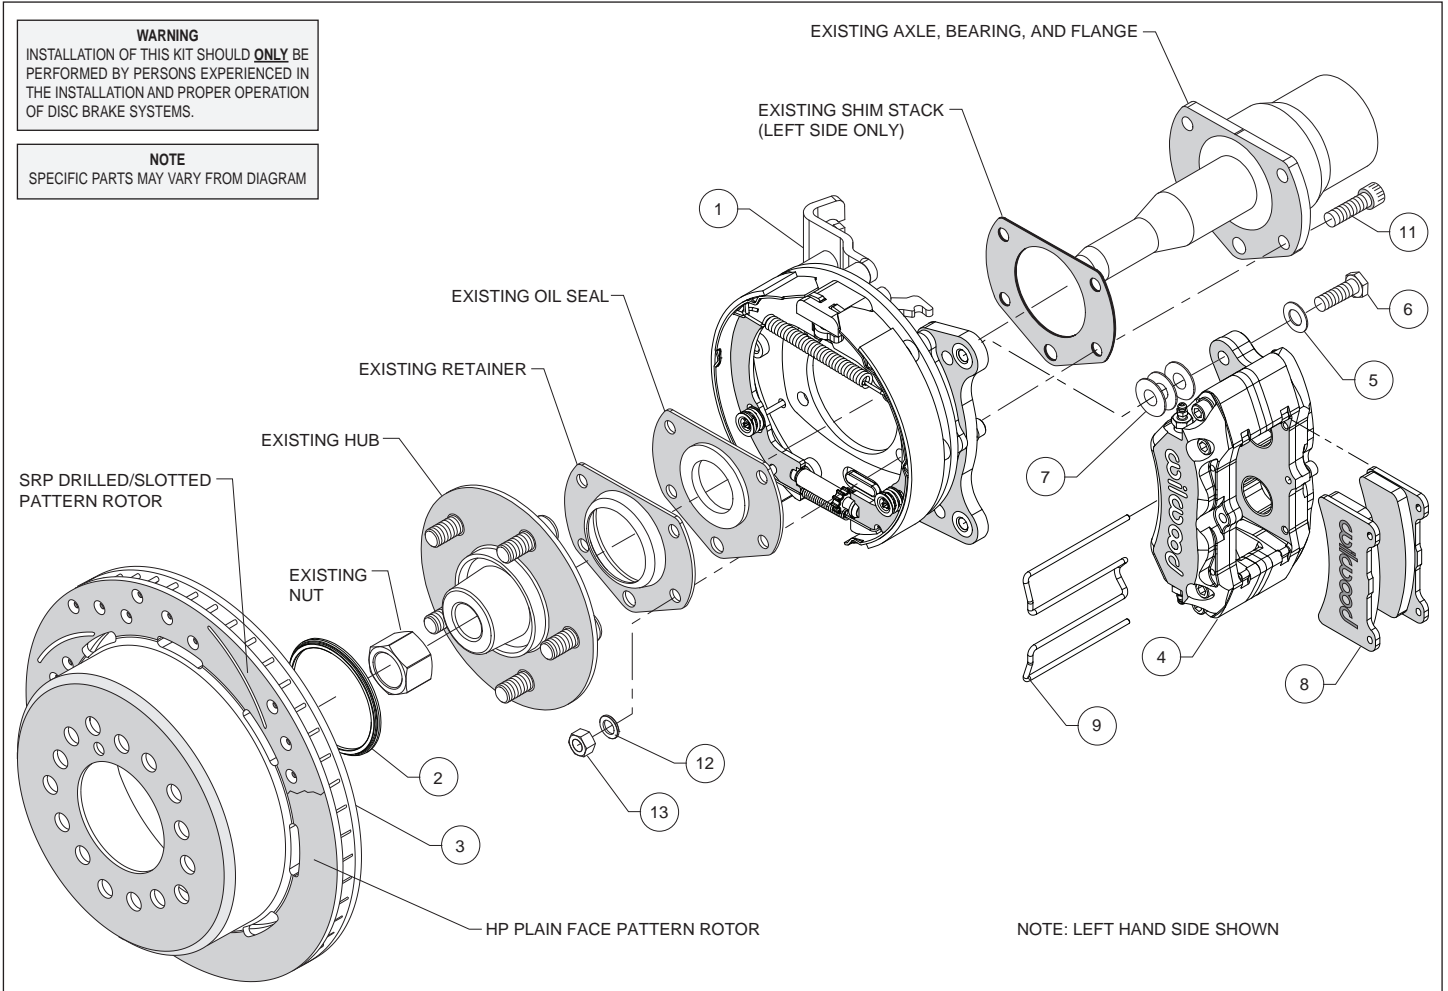
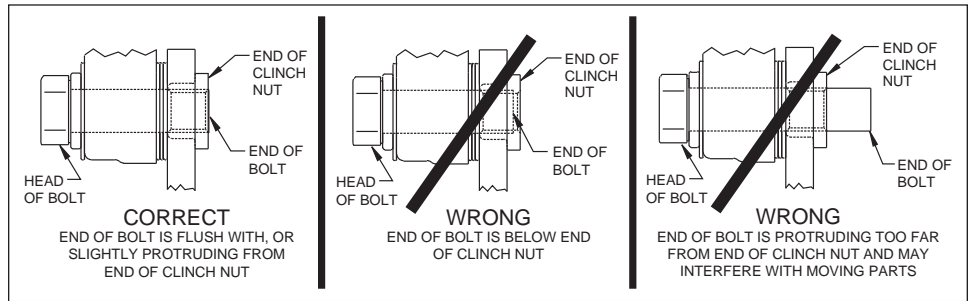

Figure 1. Typical Installation Configuration
Figure 4. Clinch Nut Engagement Diagram
Remove the rear wheels and disassemble the drum brake assembly down to the bare axle. Save the OEM retainer and left side axle flange shim stack. Refer to Figure 1.
Assembly Instructions (numbers in parenthesis refer to the parts list, and Figure 1 on the preceding pages): **CAUTION:** All mounting bolts must fully engage clinch nuts. Be sure to check that all bolts are either flush or protruding through flanged side of clinch nut after shimming, Figure 4.
- Orient the bracket assembly (1), as shown in Figure 1, and Photo 2. Install a new OEM seal plate (not included), Photo 3, and OEM retainer, Photo 4. Secure using bolts (11), washers (12), and nuts (13). Apply red *Loctite*® 271 to the bolt threads and torque nuts to 40 ft-lb.
- Slide the rotor registration adapter (2) onto the axle register on the axle flange with the smaller O.D. facing toward the rotor/hat (3), Photo 5. Align the correct hole pattern in the rotor/hat with the stud pattern on the axle flange and slide into place, Figure 1 and Photo 6. **NOTE:** The rotor/hat must fit flush against the axle flange or excessive rotor run out may result. Install three lug nuts (finger tight) to keep the rotor/hat assembly in place while continuing with the installation. **NOTE:** Some OEM and after market axles come with stud sizes larger than 0.50" diameter. Verify stud size and have a qualified machine shop drill the bolt circle of the hat/rotor to the correct stud size, if necessary.
•**NOTE:** Please reference the caution statement at the beginning of the assembly instructions. Mount the caliper (4) onto the caliper mounting bracket (1) using bolts (6) and washers (5), as shown in Figure 1. Initially place three .035" thick shims (7) on each bolt between the caliper and the bracket, Photo 7. Temporarily tighten the mounting bolts and view the rotor (3) through the top opening of the caliper. The rotor should be centered in the caliper, Photo 8. If not, adjust by adding or subtracting shims between the bracket and the caliper. Always use the same amount of shims on each of the two mounting bolts. **NOTE:** The end of each bolt must be flush with or slightly protruding from the head of the clinch nut, as shown in Figure 4. If necessary place spare shims between washer (5) and caliper mounting ear to achieve the proper clinch nut engagement. Once the caliper alignment and clinch nut engagement are correct, remove the bolts one at a time, apply red *Loctite*® 271 to bolt threads, and torque to 40 ft-lb.
•Install the disc brake pads (8) into the caliper, with the friction material facing the rotor (3), and secure in place using pad clip retainer (9), Photo 9.